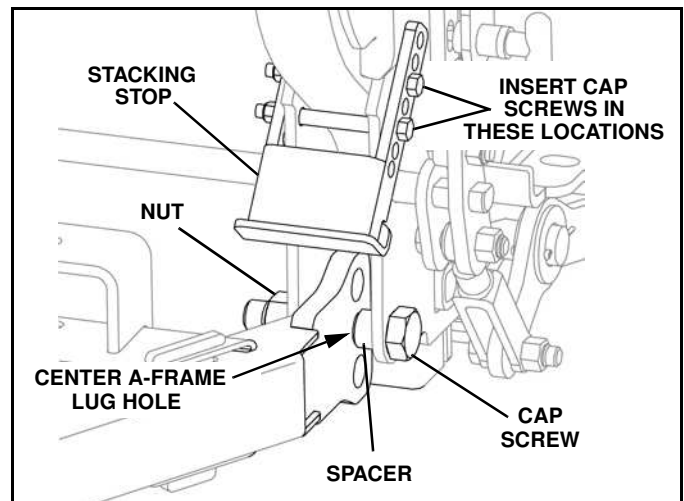

Figure 1-12
b. With a dimension of 9" to 10", the center lug holes are used to connect the A-Frame to the Lower Light Lift Bar (LLL) frame. Insert the 1.00-8 x 5" hex head cap screw from the outside through the LLLB frame, spacer, A-Frame lug center hole and LLLB frame. Secure with 1.00 x 8 lock nut. Position the Stacking Stop as shown and secure with two 1/2"-13 X 5.00 hex head cap screws and two 1/2"-13 lock nuts as shown. Repeat this step for the opposite side. (See Figure 1-12). Proceed to Step 16.